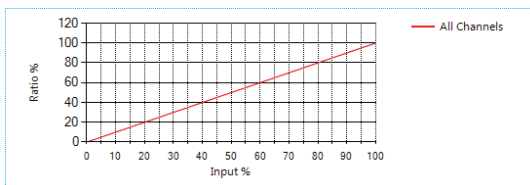

Figure 17: INT Mapping graph for all channels
*Tip: Scroll to the bottom of the window to see graphs (shown in Figures 17, 18, and 19) of the current INT mapping configuration.*